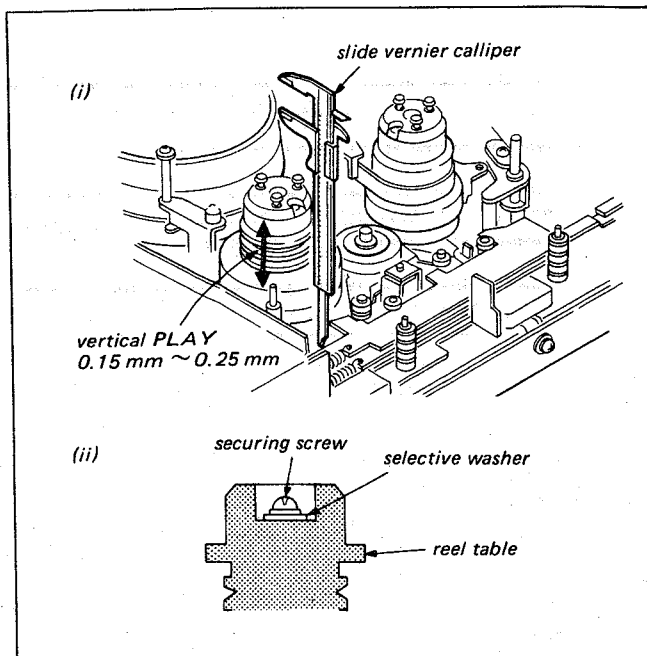

Fig. 4-4. Reel table vertical play adjustment (EJECT mode)
6. As Fig. 4-4 (i), inspect the vertical play of the Take-up Reel Table with use of a slide vernier calliper. Push up and down the reel table for inspection that the play should be 0.15 mm ~ 0.25 mm. If not, remove or add a selective washer, on top of the reel table as shown in Fig. 4-4 (ii). Use same washers shown in step 4.